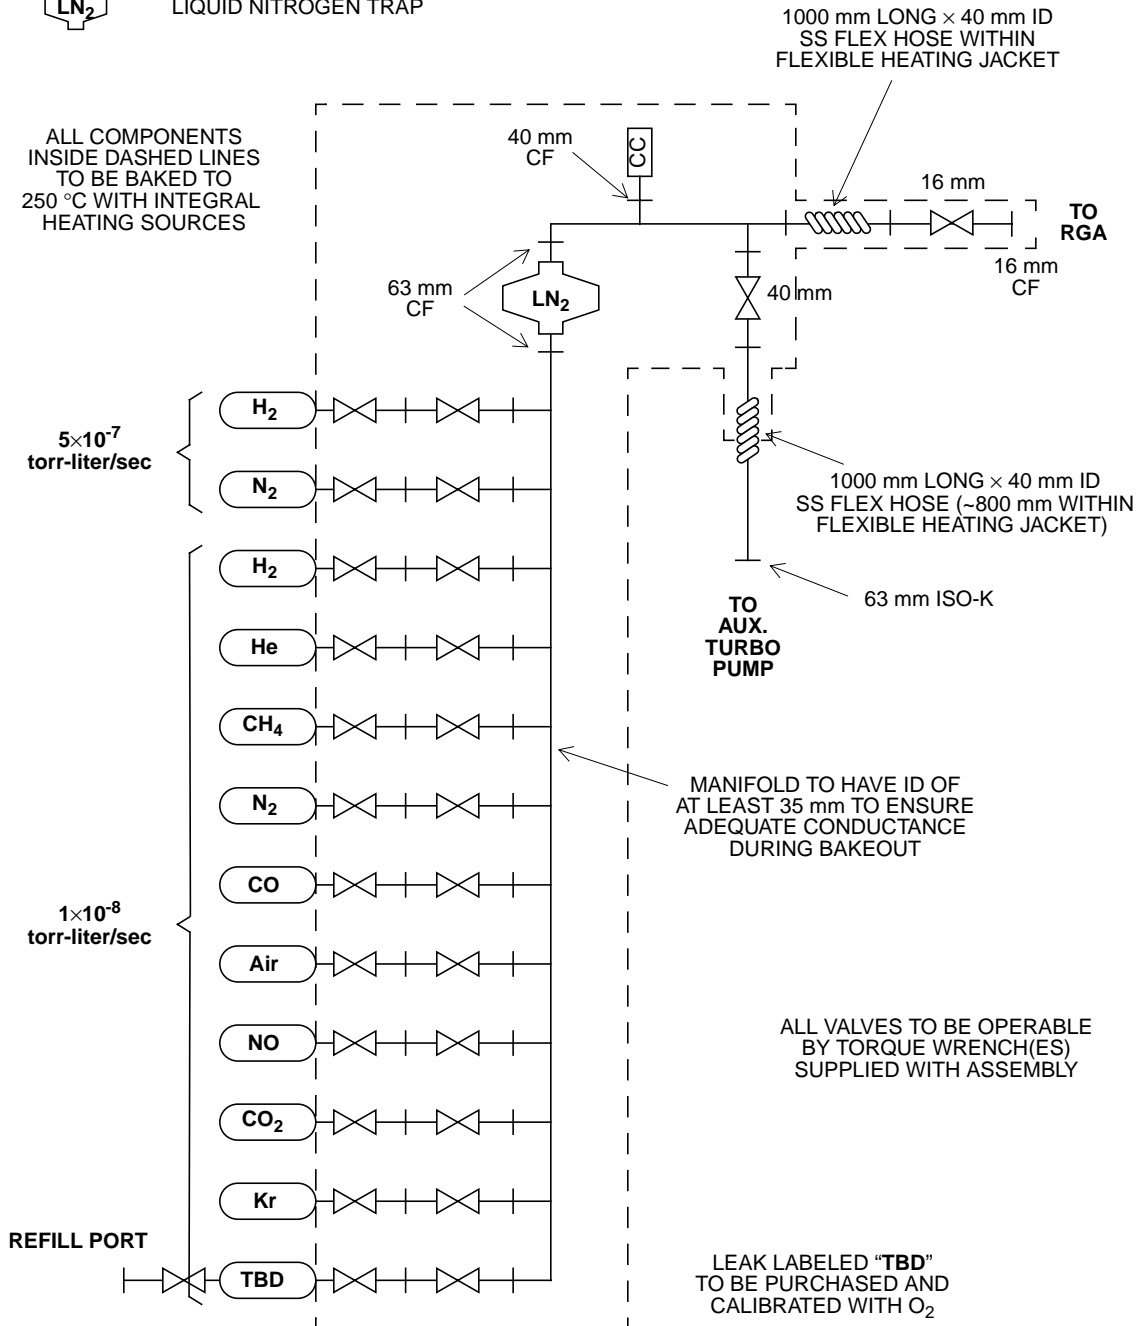

Figure 1: Calibrated Leak Assembly Vacuum Circuit Schematic (not a mechanical layout)
The Calibrated Leak Assembly (illustrated schematically in Fig. 1) will be used in conjunction with a high-sensitivity mass spectrometer/residual gas analyzer (RGA) attached to an ultra-high-vacuum (UHV) system to establish response calibration (using H2 and N2), mass scale (using Krypton) and gas cracking patterns for a variety of gas species relevant to the application. There is provision for adding a presently unspecified gas by filling the bottle labeled “TBD” in Fig. 1 (it is initially filled with O2).
After the assembly is connected to an all-metal valve on the RGA system, the manifold is baked out at 250 °C while being pumped with an auxiliary turbo pump. All parts exposed to the vacuum envelope on the UHV side of the calibrated leak orifices must reach the bake temperature during this operation, and all of the valves indicated in Fig. 1 are open during this bake. During normal operation, the baked and clean manifold is exposed to the RGA through the all-metal valve on that assembly. The liquid nitrogen trap is filled to trap residual water vapor from the gas sources. Redundant valves at each leak accommodate valve failures which would otherwise require time-consuming disassembly and rebake. The assembly will be moved among multiple RGA systems and must operate satisfactorily in an uncontrolled (outdoors) environment.
- Calibrated leaks:** All calibrated leaks shall be Vacuum Technology Inc. Lifetime™ CL-7 and CL-8 series with leak rates as indicated in Fig.1. The leak labeled “**TBD**” in Fig. 1 shall be purchased as an O2 leak with the MFV metal-sealed fill valve special option.